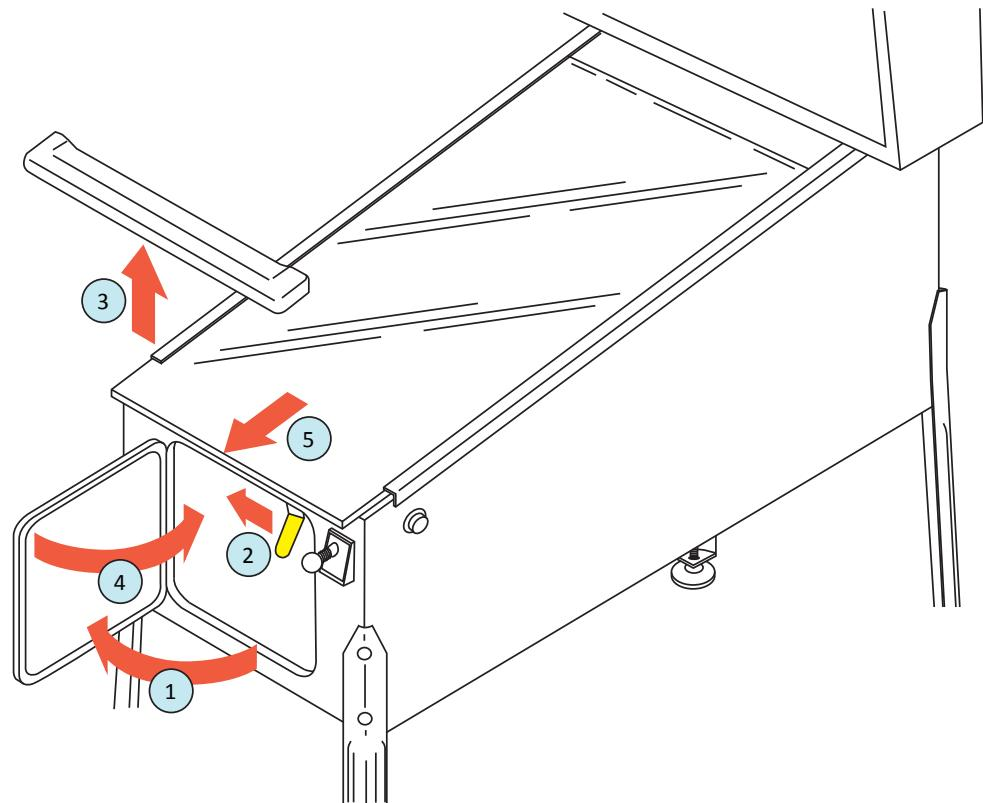

Figure A9. Removing the playfield glass.
10) You will find the coin door keys attached to the ball shooter, on the front of the game. Cut them loose with a pair of wire cutters. Remove the playfield glass: 1) open the coin door, 2) slide the yellow lockdown bar lever to the left, 3) lift the lockdown bar straight up and out, 4) CLOSE AND LOCK THE COIN DOOR (to prevent scratching of playfield glass), then 5) slide the playfield glass off of the front of the cabinet (see figure A9). Carefully set the glass aside. **CAUTION:** Lay the playfield glass flat or on a padded surface. NEVER place playfield glass, on edge, on a hard surface! The tempered glass could shatter!